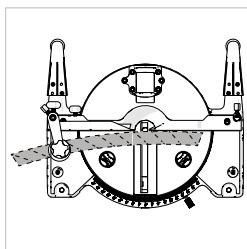

Fig. 15
10. Cutting Bowed Material (Fig 15)